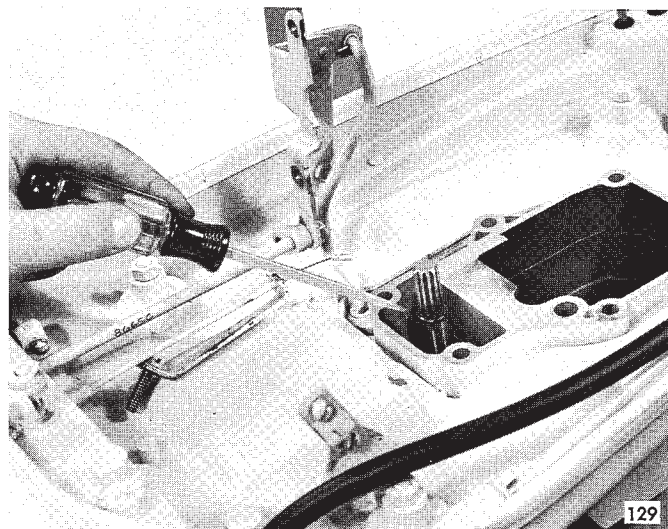

FIGURE 29 — UPPER DRIVE SHAFT SEAL
1. Lubricate lightly the spline in lower end of crankshaft and spline on drive shaft down to rubber "O" ring seal with Aero Shell #14 Cam Grease. Make sure the "O" ring seal is in place on the drive shaft, as shown in Figure 29.